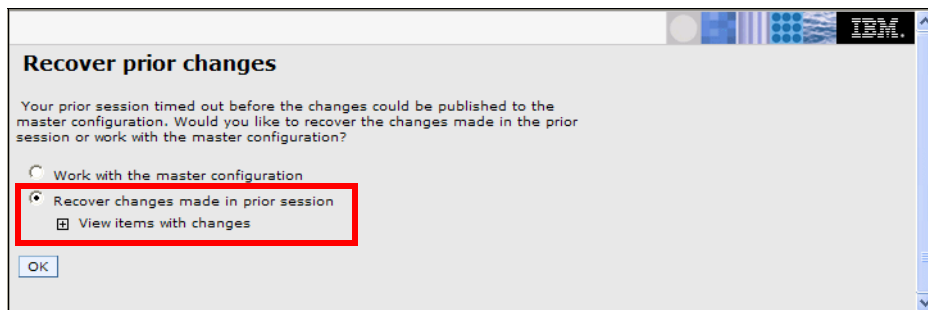

Figure 12-82 Recover changes made in prior session
- ▶ If you did not save the configuration, you are prompted to recover the changes done in the previous session, click *OK* (Figure 12-82).